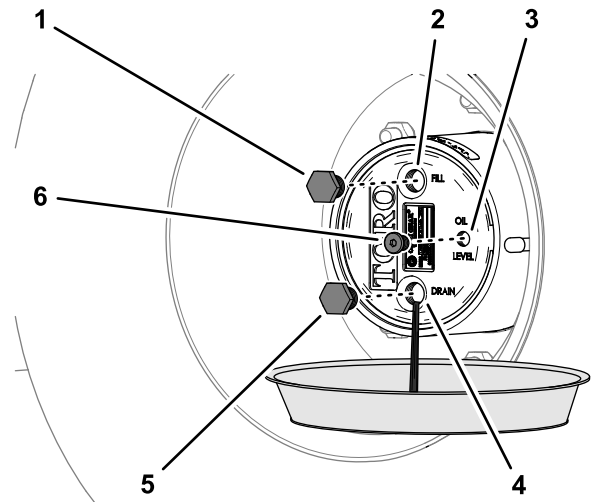

Figure 90
2. Place a drain pan under the hub of the planetary-gear drive, remove the drain plug, fill plug, and the check plug, and allow the lubricant to drain completely (Figure 90).